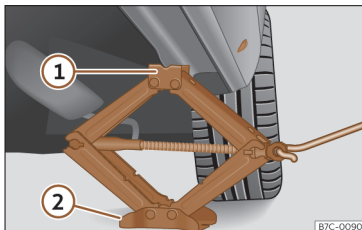

Fig. 211 Crossbar: mounting the jack on the vehicle.
- Turn the jack crank handle, located below the strut support point, to raise it until the tab ① >>> **Fig. 211** is below the housing that is provided.
- Align the jack so that the tab ① “grips” onto the housing provided on the cross member and the mobile base ② is resting on the ground. The base plate ② should fall vertically with respect to the support point ①.